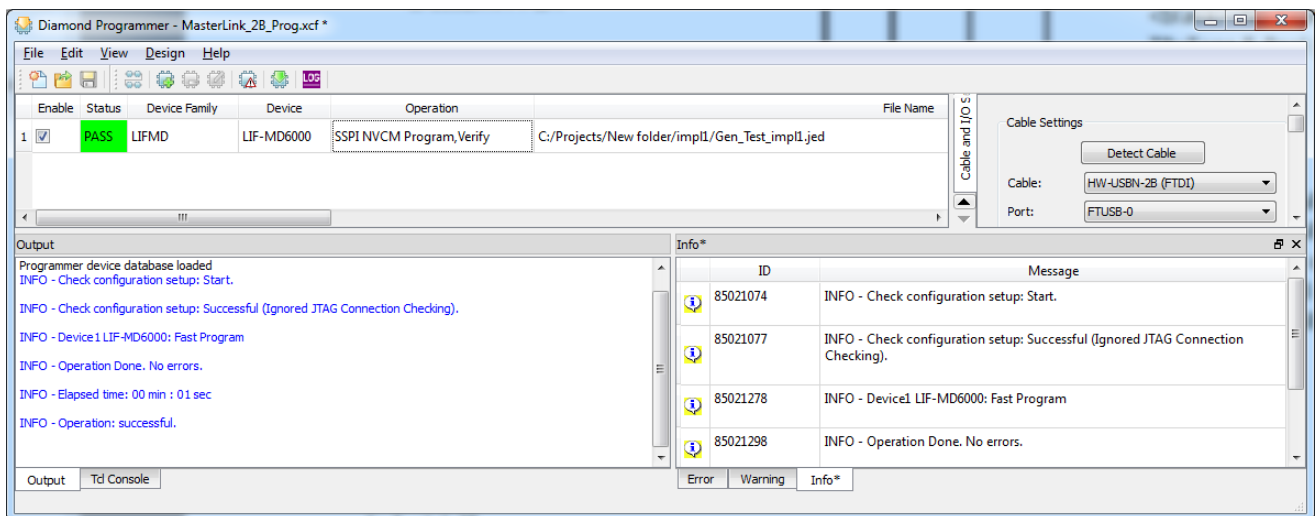

Figure 6.32. CrossLink Family – Programming Completed Successfully
- When the programming of the device is completed, the **Status** option changes to **PASS** and **Operation: successful** message appears in the **Output** console as shown in Figure 6.32.